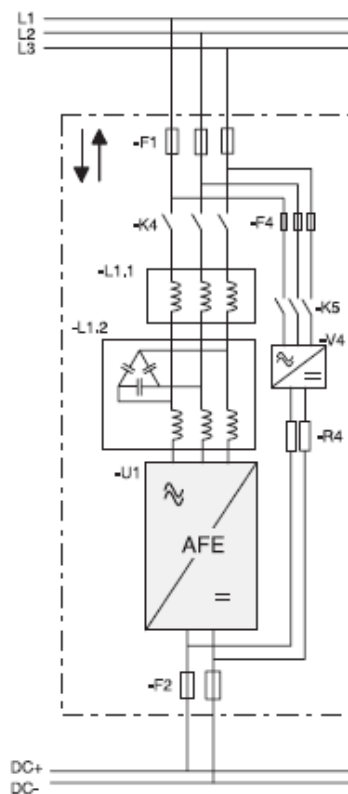

Figure 1, AFE connection
The AFE unit is a regenerative power converter for the front-end of a common DC bus product line. The AFE unit is utilized by using inverter hardware with special software. An external L(CL)-filter and charging circuit is needed. This unit is selected when low harmonics are required. The principle connection of AFE drive has been described in Figure 1.
1. Connect the unit according to the Figure 1.